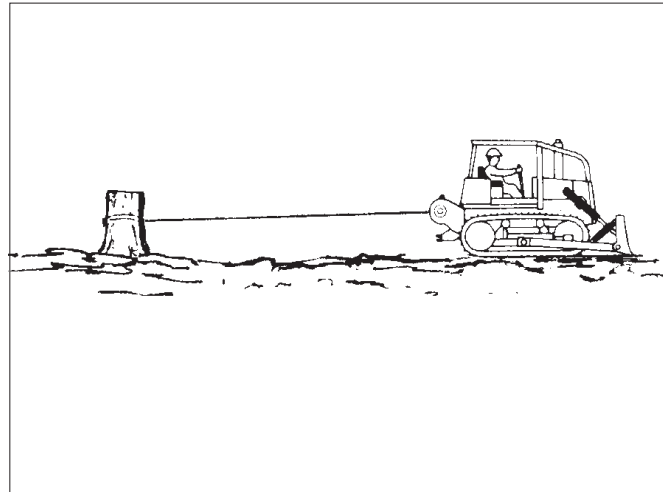

Figure 18 Moving a Disabled Vehicle (Step A)
A. A vehicle equipped with a winch can be used to remove itself from mud or other areas where it cannot move using only the drive wheels or tracks. See Figure 18. Use the following procedure: